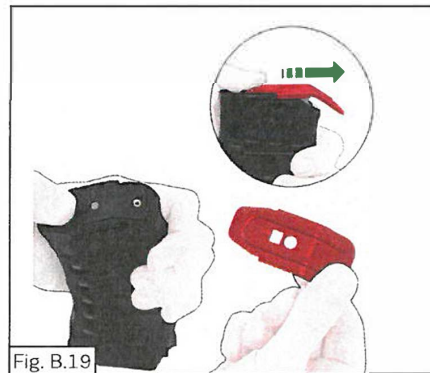
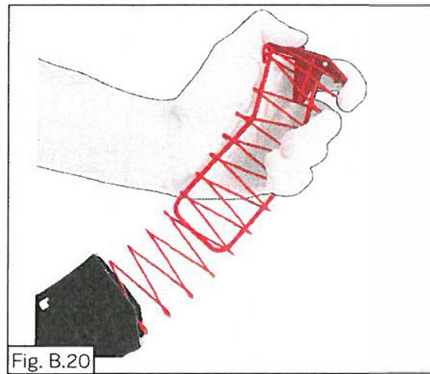

Fig. B.19
Fig. B.20
- disassemble the magazine. For this purpose sink the locking plate lug into the floor plate hole with the drift and slightly move the floor plate to the front. Holding the locking plate and thus preventing the spring from expanding, remove the floor plate from the magazine body as shown in Fig. B.19. Slowly release the spring and take it out together with the locking plate and the follower from the magazine body as shown in Fig. B.20;